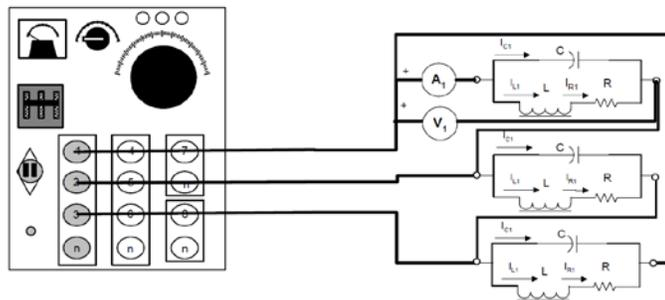

FIGURE 3.12
Step 10: Now, using your single-phase wattmeter configuration, measure the power in phase 1 as show in the FIGURE 3.12. Notice that the phase-1's currents pass through the current coil, and the voltage coil is in parallel with phase 1. Write your measure at table 3.2.